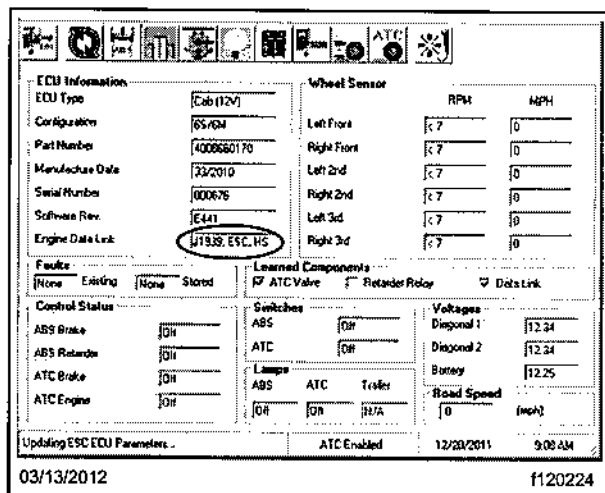

Fig. 20, ESC Enabled
4. Check the Engine Data Link field. It should include "ESC." See Fig. 20.